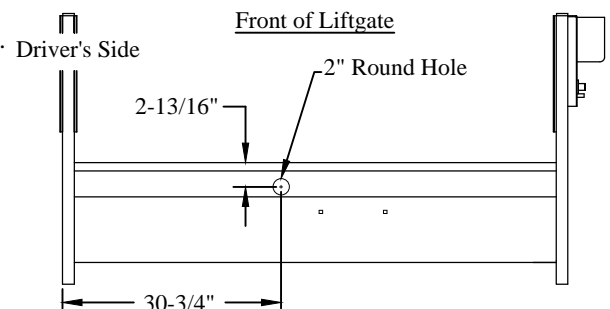

Figure 13: Spare tire access location for Toyota trucks.
2. **Remove** the black plastic plug from the 2" round hole as shown (Figure 13).